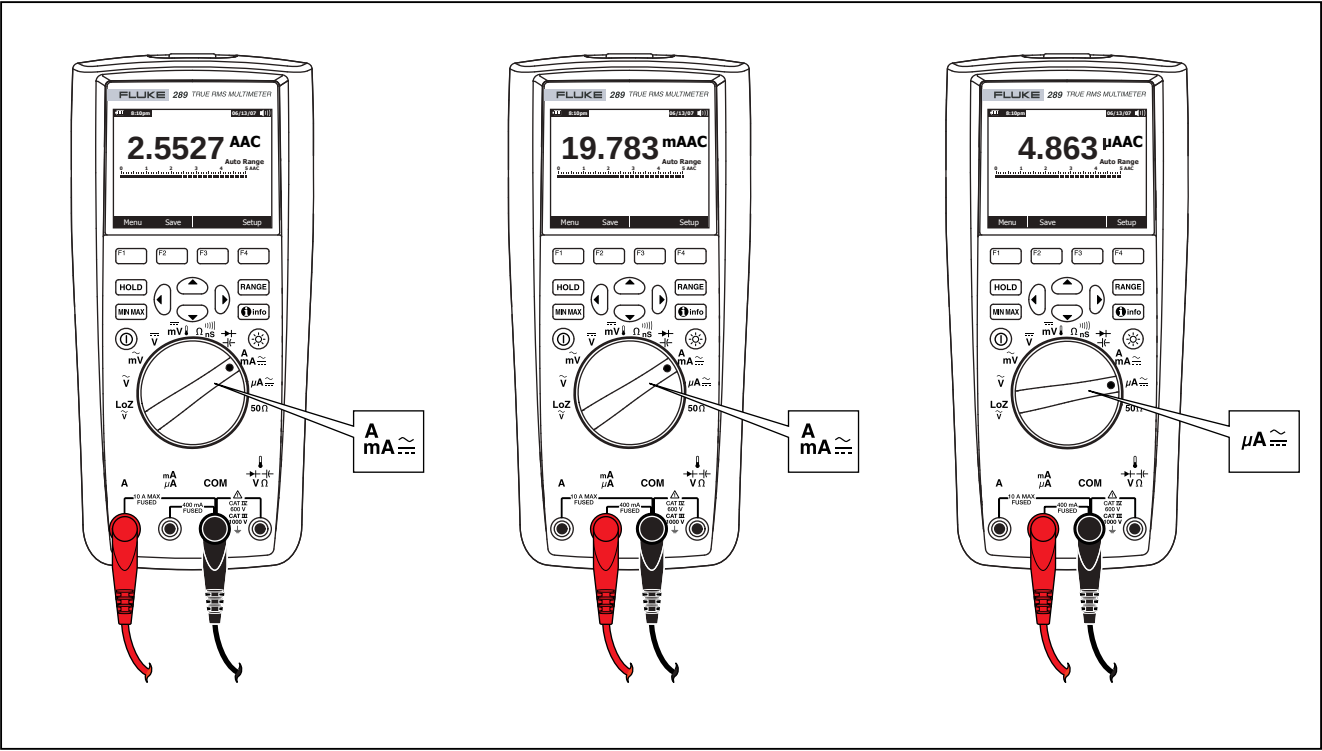

Figure 21. Current Measurement Setup
3. If you are using the **A** terminal, set the rotary switch to **A_∞**. If you are using the mA/μA terminal, set the rotary switch to **μA_∞** for currents below 5000 μA (5 mA), or **A_∞** for currents above 5000 μA. See Figure 21 for test lead connections and function selection. Refer to the "Input Alert Feature" section for information on the alerts the Meter uses when leads are not used correctly for current measurements.